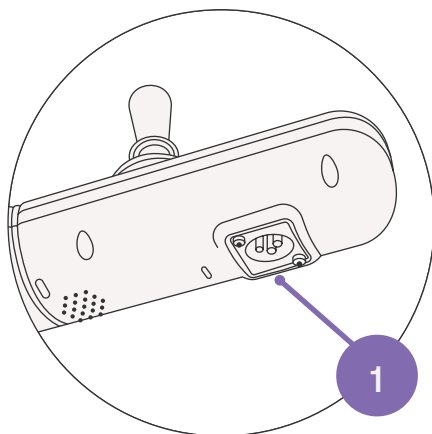

Figure 4.8.1
**Charging Method 1:** Connect the charger, then insert the charger plug into the upper controller to begin charging (see Figure 4.8.1).